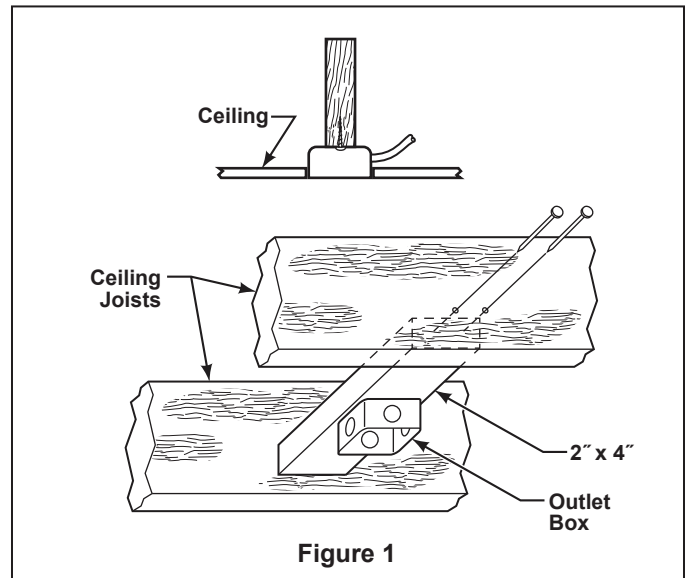

Figure 1
NOTE: If you are uncertain of part description, refer to exploded view illustration. (Figure 1, page 11)
Your new ceiling fan will require a grounded electrical supply line of 120 volts AC, 60 Hz, 15 amp circuit. The outlet box must be securely anchored and capable of withstanding a load of at least 50 lbs. **Figure 1** depicts different structural configurations that may be used for mounting the outlet box.
2. Remove the Hanger Ball by loosening the setscrew in the Hanger Ball until the ball falls freely down the Downrod. (Figure 1) Remove the Pin from the Downrod, then remove the Hanger Ball. Retain the Pin and Hanger Ball for reinstallation in Step 7.